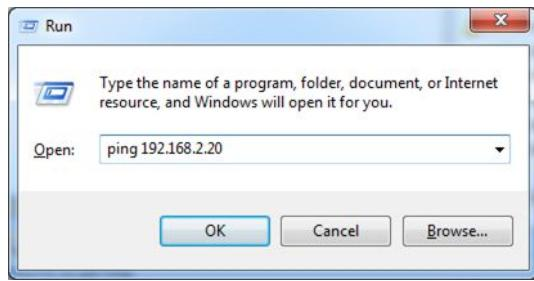

Figure 4.11: Pinging the QBall 2
9. Make sure you can connect to the router by using the ping command. As shown in Figure 4.11, click on the *Run* item under the Windows *Start* menu and type: ping > 192.168.2.1.